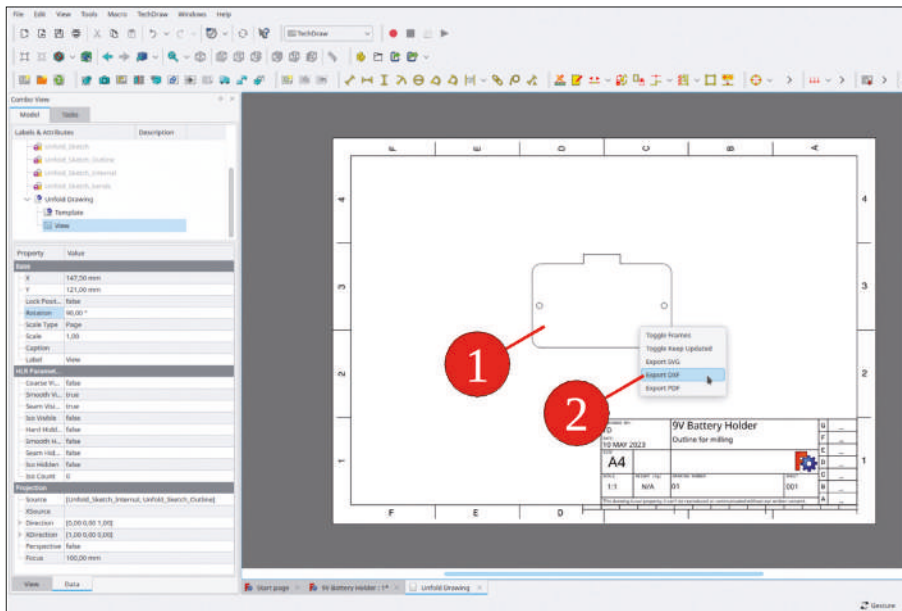

Figure 5-30
37. In order to export the view contents, right-click the view again (with the frame hidden — it's not needed for exporting). Then, select 'Export DXF' (Figure 5-30).